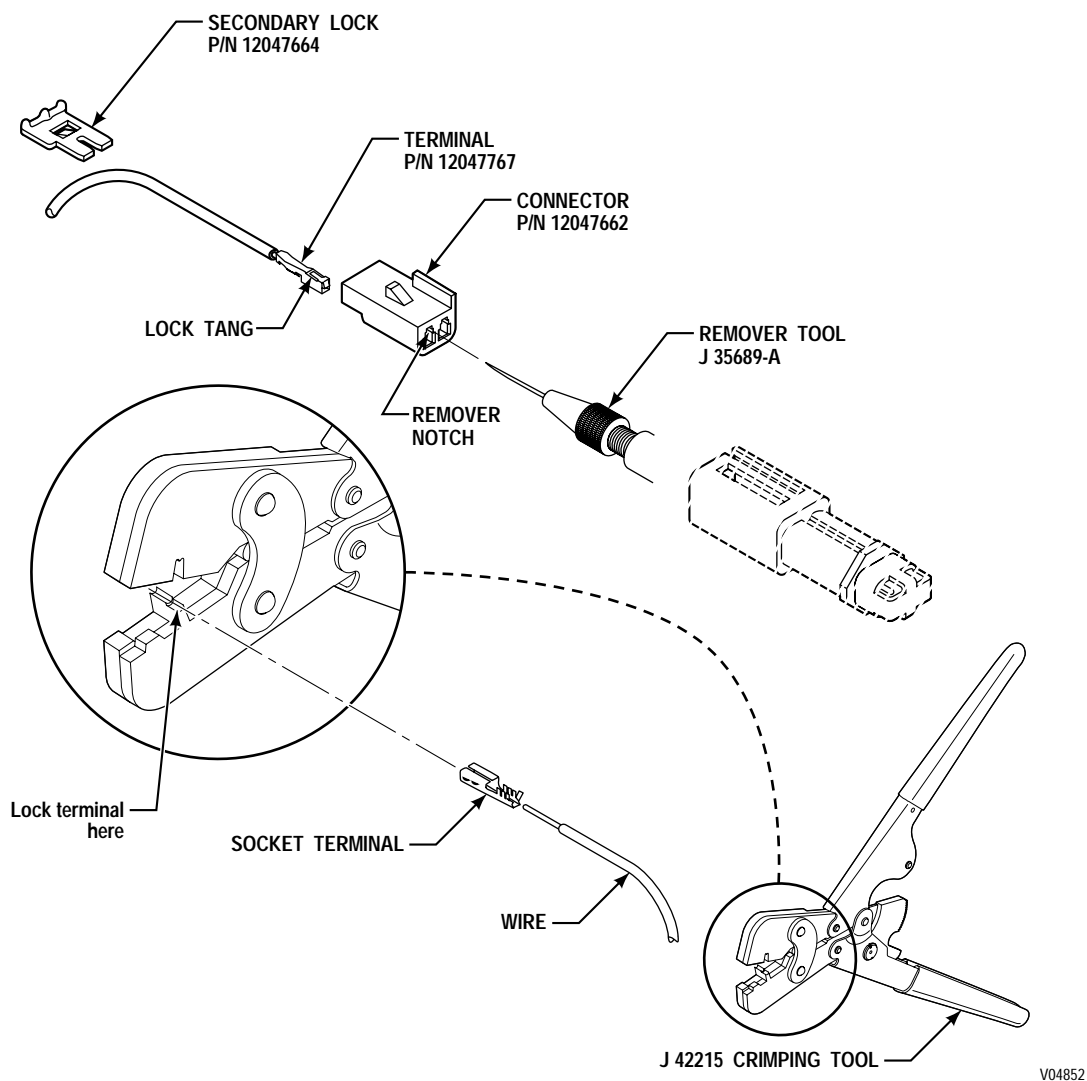

Figure E-4. Delphi-Packard Metri-Pack 150 Series Connector — Push-To-Seat
2. Insert needle end of terminal remover J 35689-A into the small notch in the front of the connector cavity of the terminal to be removed (refer to Figure E-4).